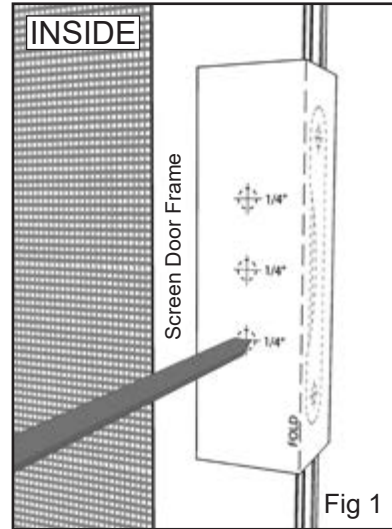

Fig 1
- A. Fold template around door frame at FOLD and mark three holes (**Fig 1**) Drill three 1/4" holes in door frame for handle.